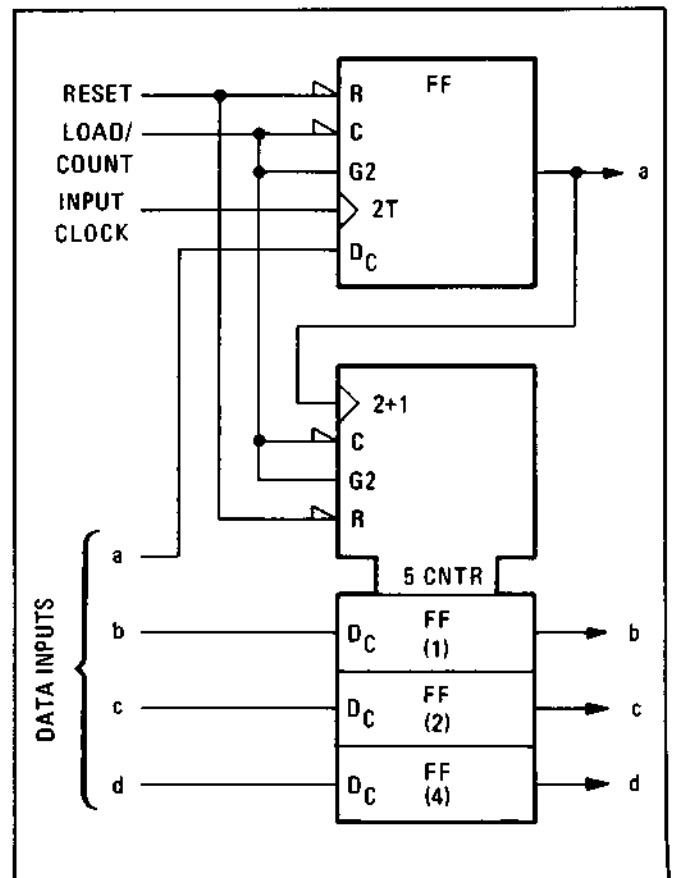

Figure 8-118. Presetable Counter
Presetable counters consist of four D flip-flops which are internally connected to provide a divide-by-two and a divide-by-five counter for a BCD counter or a divide-by-two and a divide-by-eight for a hexadecimal counter. The outputs of these devices can be preset to any state by placing a low on the load/count (C) input and applying the desired data to the D inputs. As long as the load/count input is low, the outputs will follow the D inputs. When the load/count input is set high the outputs are latched to the preset values, and the output will advance one count with each low-to-high transistion of the clock. The reset (R) function is asynchronous. See Figure 8-118.